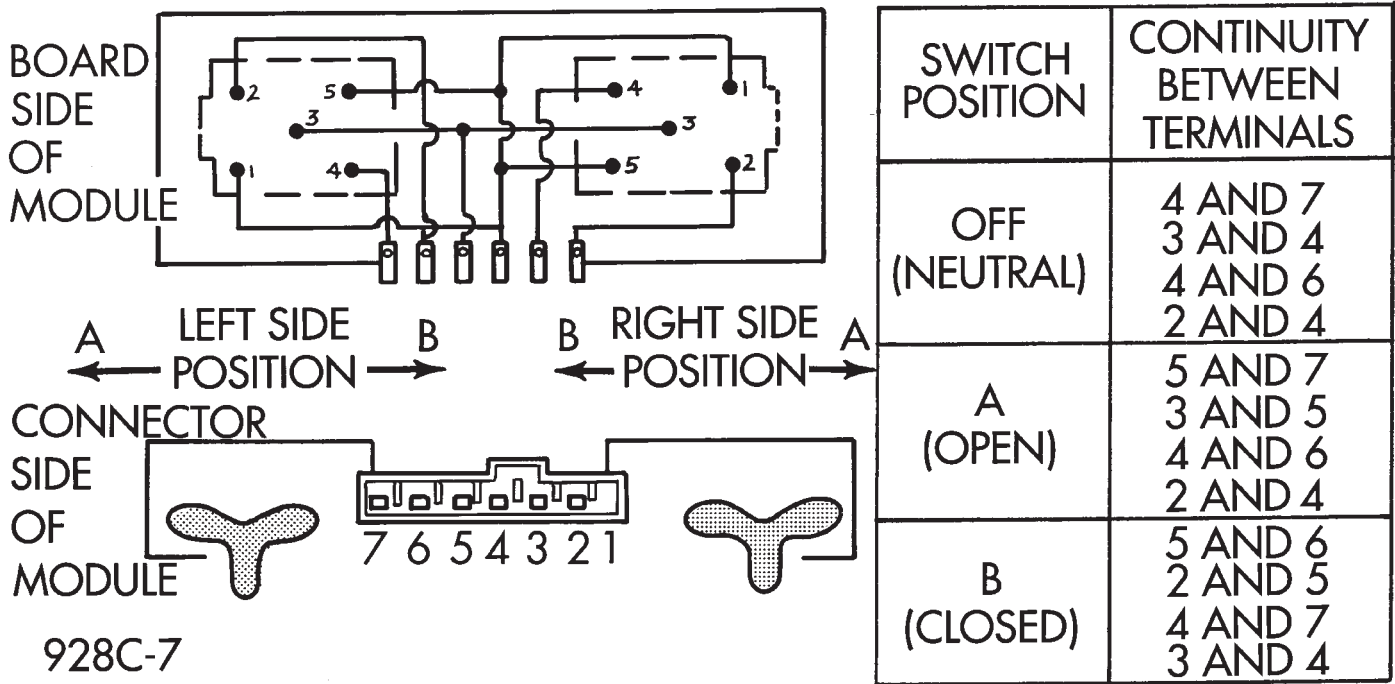

Fig. 3 Power Vent Window Continuity Test
- (1) Remove the overhead console and disconnect wire connectors.
- (2) Ignition switch in the run position.
- (3) Using an Ohmmeter refer to Fig. 3 to test switches.
- (4) If no continuity, at any of the positions, replace switch module.